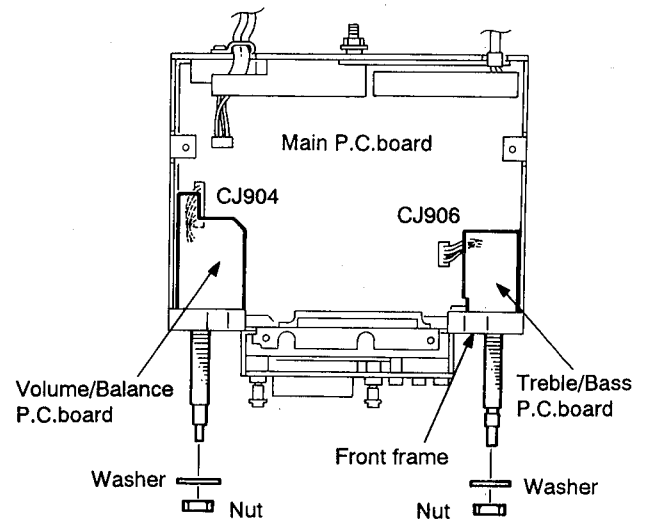

Fig. 4-14
■ **Volume boards in both sides** (Fig. 4-14)